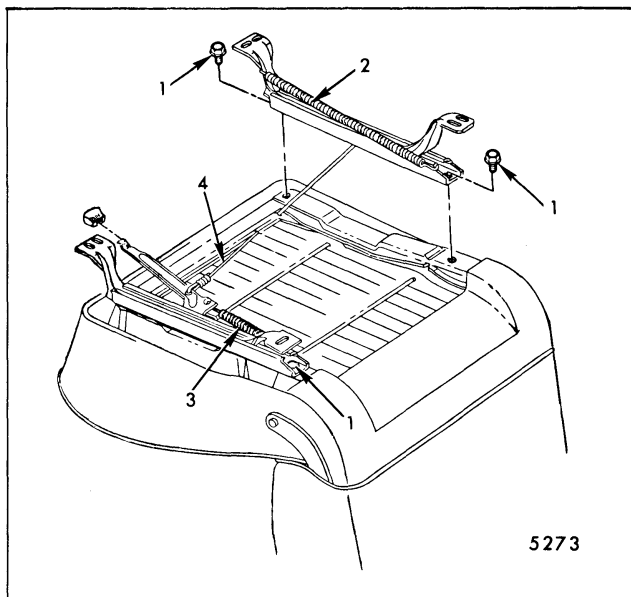

Fig. 9-19-Manual Seat Adjusters - Bucket Seats (Except Swivel Bucket)
- Fig. 9-19-Manual Seat Adjusters - Bucket Seat (Except Swivel Bucket)